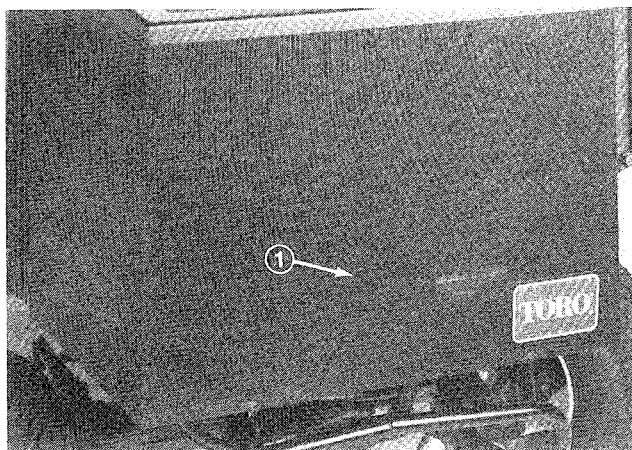

Figure 43
### ENGINE COOLING SYSTEM (Fig. 43)
- B. Unscrew knobs and remove rear screen (Fig.43). Clean screen thoroughly.